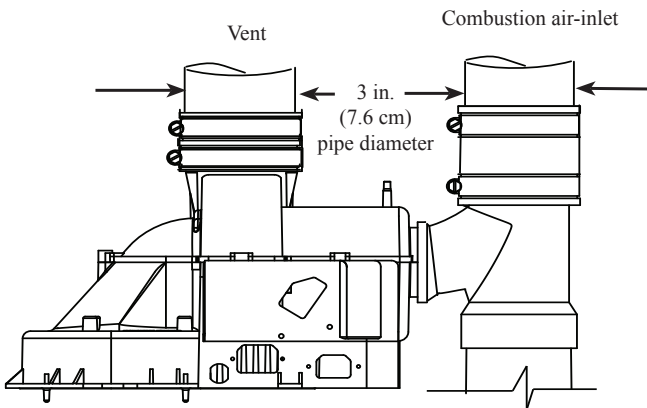

Figure 1
2. Connect the combustion air-inlet system piping to the combustion air-inlet piping tee using the 3 in. (7.6 cm) already installed rubber coupling and clamps (See Figure 1).
3. For vent and combustion air-inlet terminals, use the two (2), 3 in. (7.6 cm) diameter, Schedule 40, PVC, 90°, 1/4 standard bend elbows supplied with the water heater.